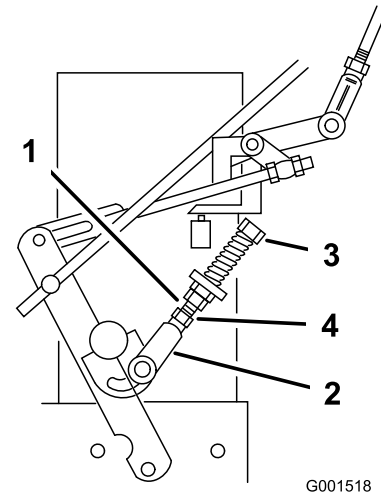

Figure 37
9. If the wheel turns while holding the drive lever in neutral, the neutral control linkages need to be adjusted (Figure 37). If wheel stops then go to step 12.
10. Loosen the nut against the neutral control linkage yoke (Figure 37).
11. Adjust the neutral control linkage until the respective drive wheel stops while the drive lever is pulled against the neutral spring (neutral position) (Figure 37).
12. Turn the adjusting bolt approximately 1/4 turn clockwise if the wheel is turning in reverse or turn the bolt approximately 1/4 turn counter-clockwise if the wheel is turning forward (Figure 37).